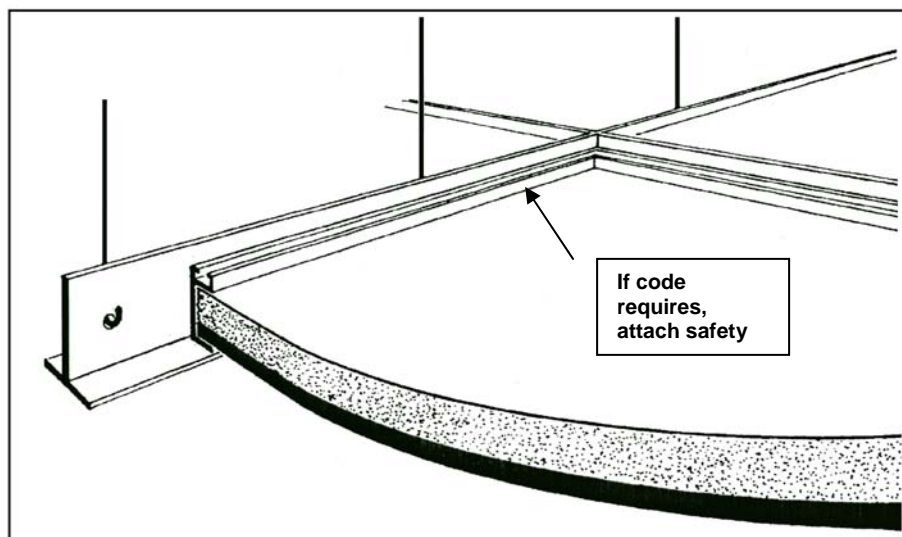

Figure I-1 Typical installation in suspended ceiling frame
- 3) To install the panel, ask a helper to hold the panel while the connections are being made; then insert the panel into the grid's opening and allow it to rest fully on the grid (see figure I-1). Alternately, remove two panels and lay the Lexin heating panel in one opening while connecting the wiring through the other.